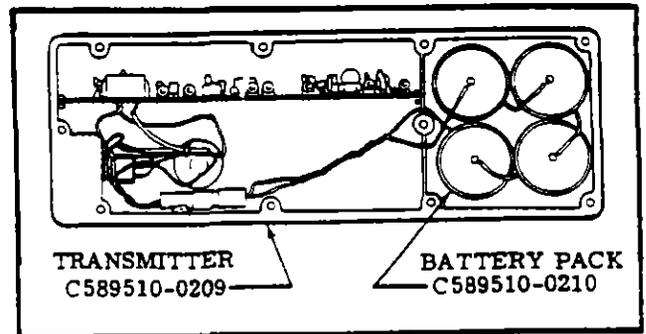

Figure 17-22. Lithium 4 Cell
17-118. DESCRIPTION. The ELT is a self-contained, solid state unit, having its own power supply, with an externally mounted antenna. The C589510-0209 transmitter is designed to transmit simultaneously on dual emergency frequencies of 121.5 and 243.0 Megahertz. The C589510-0211 transmitter used for Canadian registry, operates on 121.5 only. The unit is mounted in the tailcone, aft of the baggage curtain on the right hand side. The transmitters are designed to provide a broadcast tone that is audio modulated in a swept manner over the range of 1600 to 300 Hz in a distinct, easily recognizable distress signal for reception by search and rescue personnel and others monitoring the emergency frequencies. Power is supplied to the transmitter by a battery-pack which has the service life of the batteries placarded on the batteries and also on the outside end of the transmitter. ELT's are equipped with a battery-pack containing four lithium "D" size batteries which are stacked in two's (See figure 17-22). The ELT exhibits line of sight transmission characteristics which correspond approximately to 100 miles at a search altitude of 10,000 feet. When battery inspection and replacement schedules are adhered to, the transmitter will broadcast an emergency signal at rated power (75 MW-minimum), for a continuous period of time as listed in the following table.
17-123. REMOVAL AND INSTALLATION OF LITHIUM FOUR (4) CELL BATTERY-PACK. (See figure 17-22.)
- Place new battery-pack in the transmitter with four batteries as shown in the case in figure 17-22.
- Connect the electrical connector as shown in figure 17-22.